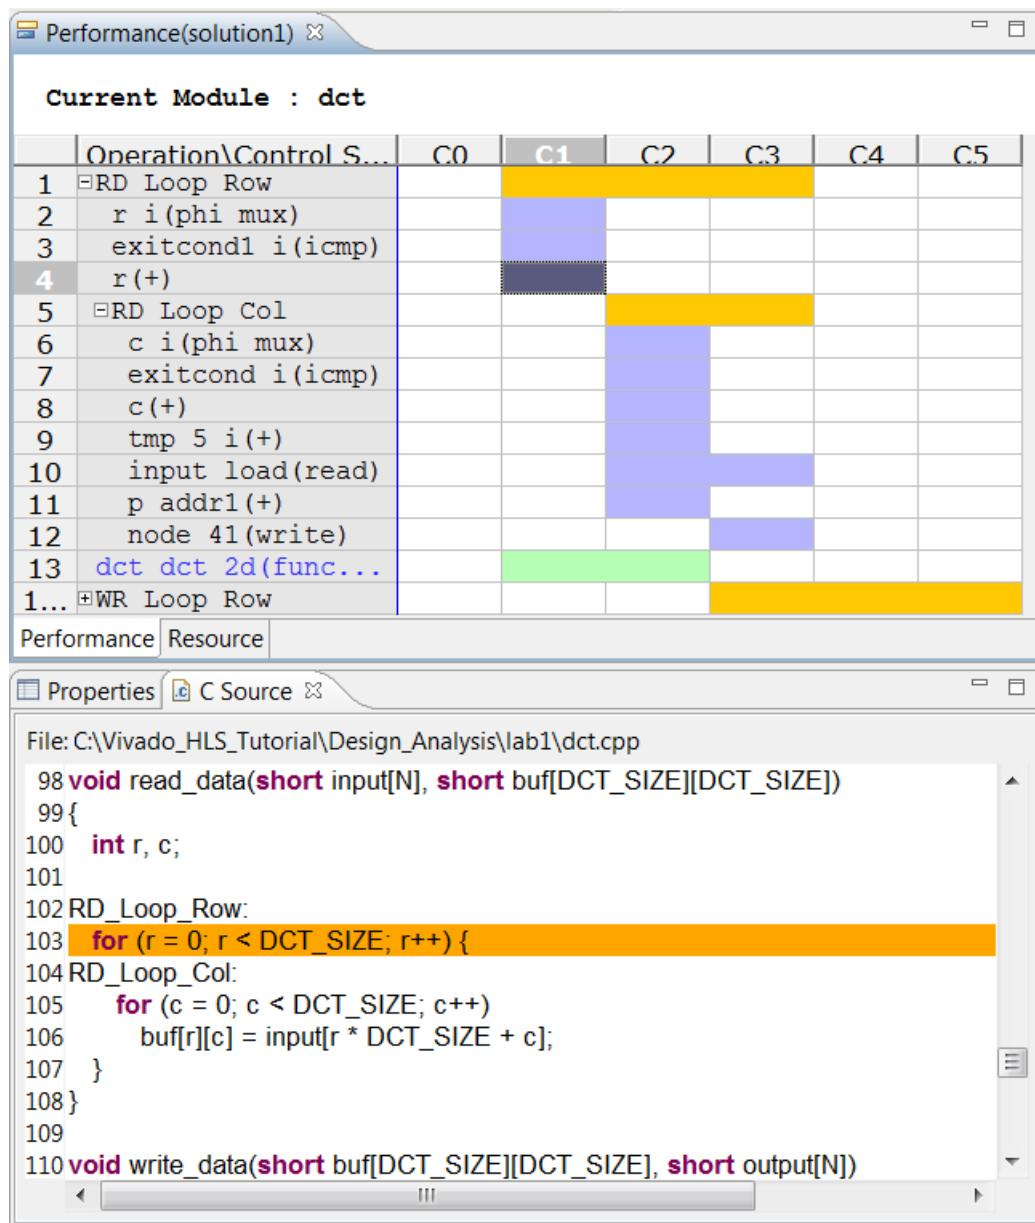

Figure 6-10: C Source Code View
3. Select the adder in state C1, right-click and select **Goto Source** (Figure 6-10).
This opens the C source code to highlight which operation in the C source created this adder. From the details on screen (also shown in Figure 6-10), you can determine it is indeed the loop counter. It is the only addition on this line, and the variable is named "r".